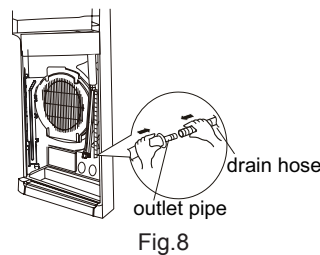

Fig.8
1. Connect the drain hose to the outlet pipe of indoor unit. (As show in Fig.8)